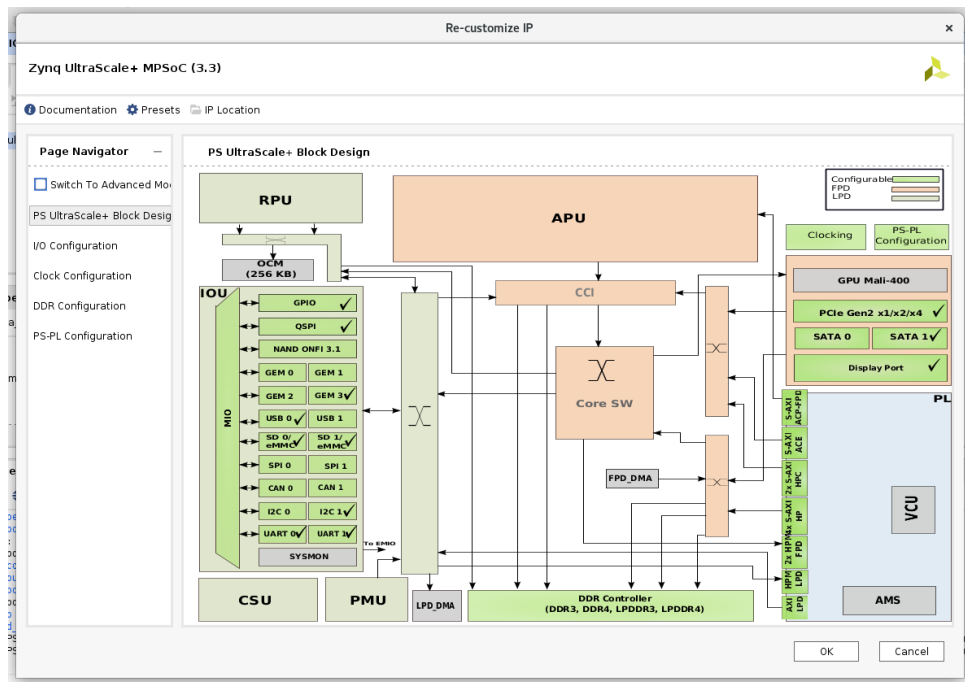

Figure 2
5. When the IP has been added, click “Run Block Automation” in the green strip above it and then click “OK.” This will reduce the number of IO pins visible on the block but will populate it with typical features as shown in Figure 2.